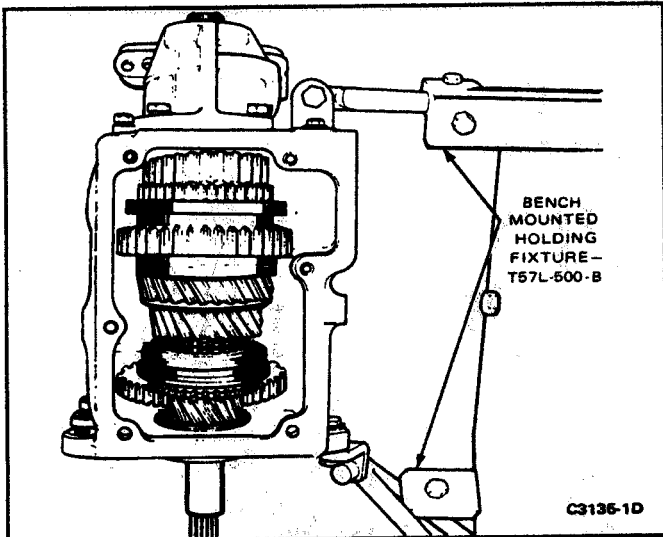

FIG. 5 Transmission in Holding Fixture
1. Place the transmission in a suitable holding fixture (Fig. 5).